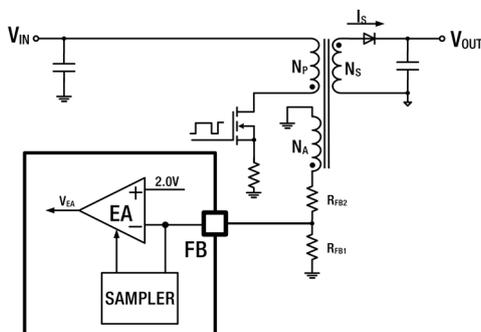
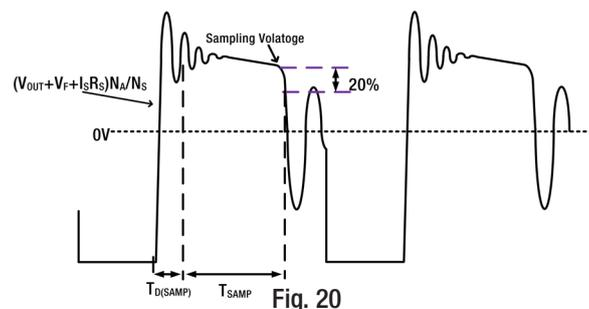

Fig. 19
Fig. 20
RVPW015 can sense the output voltage of the switching power supply by monitoring the auxiliary winding of the transformer. A sampling resistor connected to this auxiliary winding is tied to the FB pin. During the transformer's demagnetization phase, the voltage across the auxiliary winding is sampled and used as the negative input to the internal error amplifier (EA). This voltage is then differentially amplified against a fixed positive reference voltage, $V_{REF(REG)} = 2V$, to generate the duty cycle modulation voltage, V_{EA} which is used to regulate the duty cycle of the converter. As illustrated in Figure 19, this process ensures that the converter adjusts its switching behavior to maintain output voltage regulation. The waveform of the auxiliary winding voltage during this process is shown in Figure 20. Once the control loop reaches a steady state, the sampled voltage at the FB pin stabilizes at the 2V reference voltage of the EA. Based on this steady-state condition, the output voltage of the converter can be calculated from the relationship between the auxiliary winding, the feedback resistors, and the output parameters.